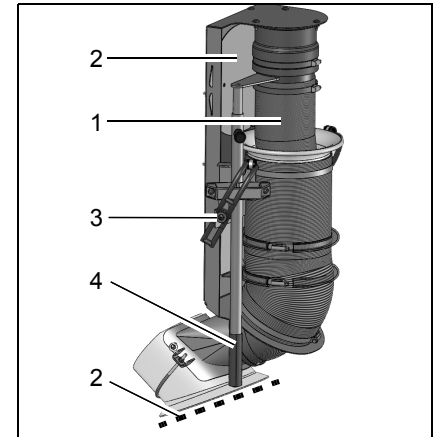

Fig. 4
The 4 metre long hand suction hose (Fig. 4/1) is used for effectively cleaning places difficult to reach.
2. If necessary, remove the insert plate (Fig. 4/2) from the holder and push it under the rubber seal.
3. Loosen the lock (Fig. 4/3) and pull the hand suction hose down and out from the holder.
4. Hold the hand suction hose with the handle (Fig. 4/4) and clean the surface. If required, adjust the handle rod to length with the locking bolt.